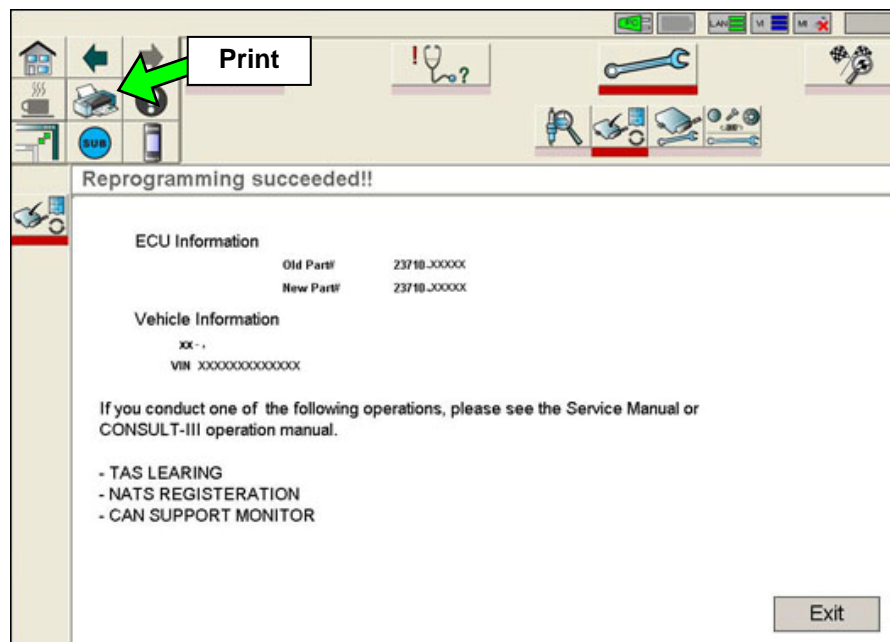

Figure 10
21. When the screen in Figure 10 appears, ECM reprogramming is complete.
NOTE: If the screen in Figure 10 does not display (reprogramming does not complete), click here to link to the ECM REPROGRAM INTERRUPTION RECOVERY General Procedure.
NOTE: If you saved a copy of the screen in Figure 10 and need to print it at a later date, you can find it in the following file location: